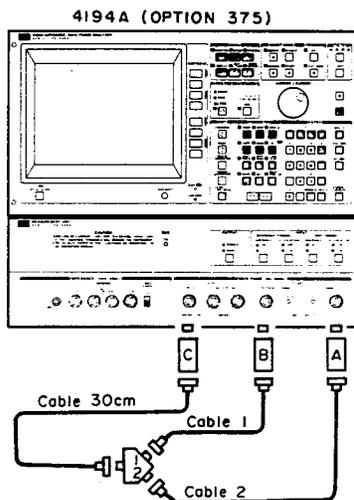

Figure 4-13. HP 11852A Insertion Loss Calibration Setup 3.
12. Change the setup as shown in Figure 4-13 using 50Ω cables. Connect **PAD A** to the **TEST CHANNEL** and **PAD B** to the **REFERENCE CHANNEL**.